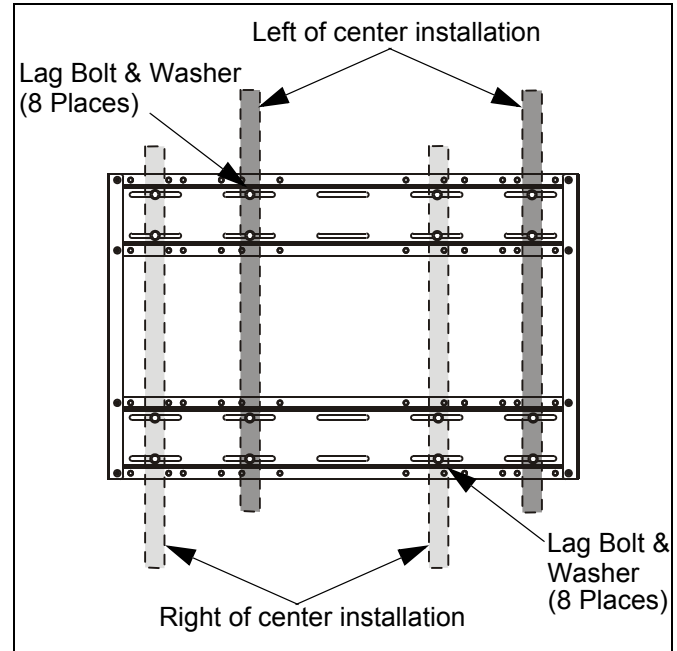

Figure 9: 24" On Center Installation
- 24" on center studs: The mount is offset to the left or right of center between two studs as shown (See Figure 9).